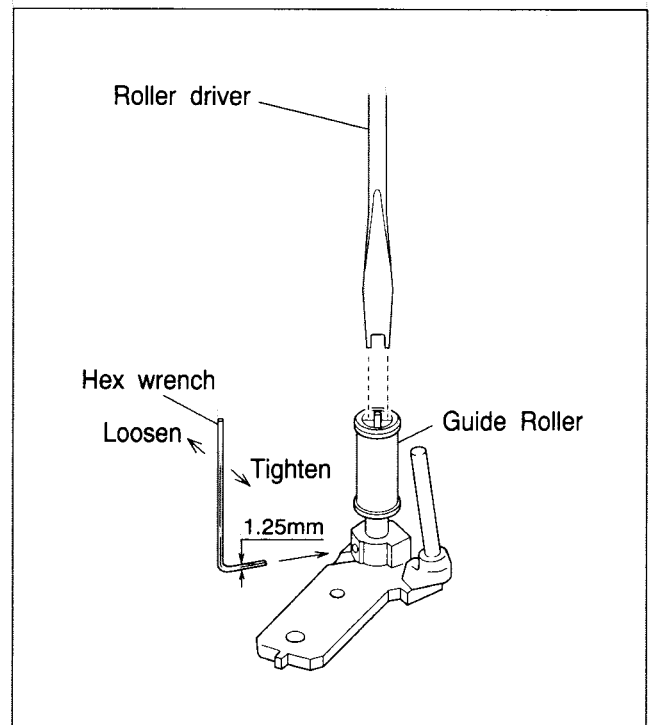

Fig. 2-7-2
- (5) Slightly loosen the set screw under the pole base assembly with a 1.25 mm hexagonal wrench (Take care not to loosen too much). (Fig.2-7-2)